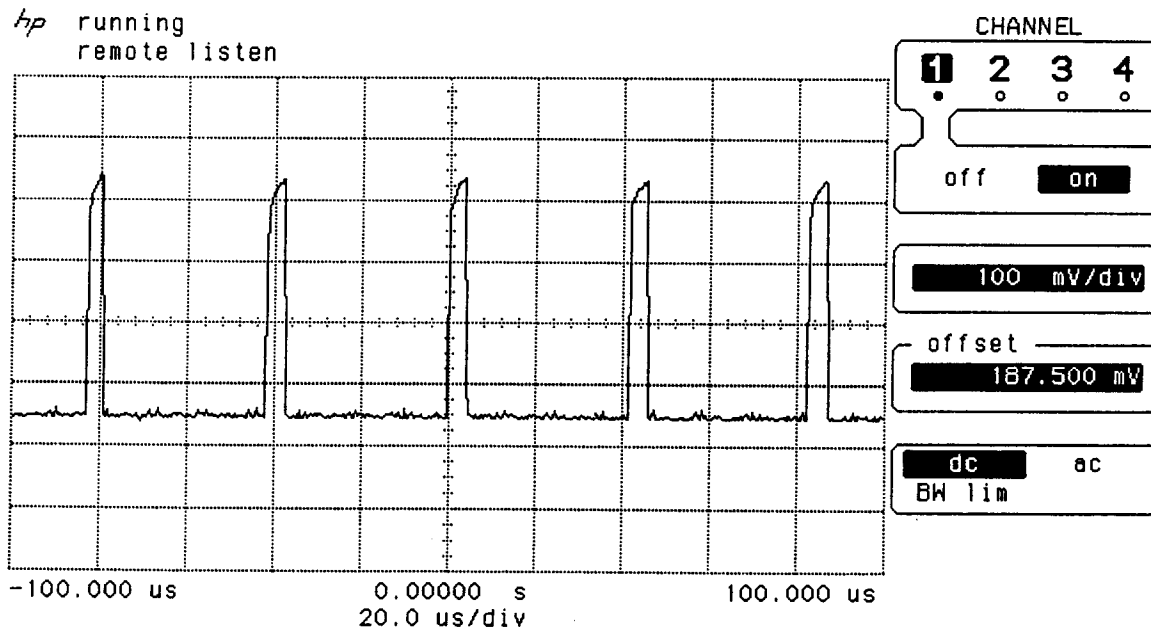

Figure 4-17. Horizontal Sync Signal (Frequency is 24.1 kHz)
- Verify that the CRT sync signals (Horizontal Sync, Vertical Sync) which are generated by A3 CPU Assembly are similar to Figures 4-17 and 4-18.